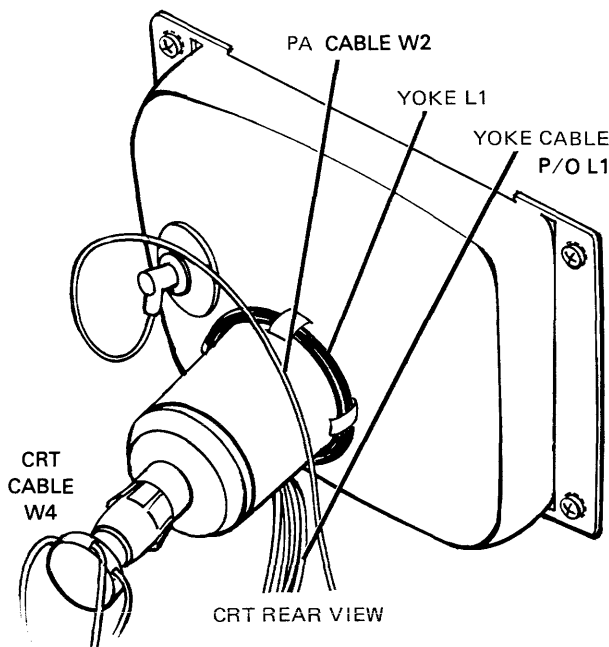

Figure 8-3. CRT Yoke Installation
- n. Install L1 on new CRT with yoke cable on bottom of CRT (see figure 8-3).